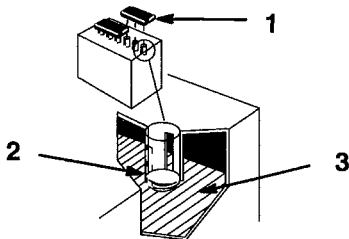

Figure 33
1. Open covers to see into the cells. The electrolyte must be up to the lower part of the tube (Fig. 33). Do not allow the electrolyte to get below the plates. (Fig. 33).
2. Lift off the filler caps (Fig. 33).
3. Slowly pour distilled water into each battery cell until the level is up to the lower part of the tube (Fig. 33).